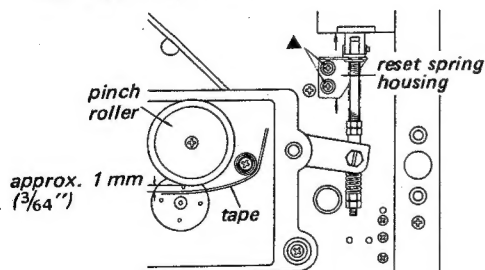

Fig. 3-1-2. Reset spring housing adjustment
See Fig. 3-1-2.
- (1) Remove the Reel Panel. See "Cabinet Removal" in page 6.
- (2) Thread a tape.
- (3) Check for approx. 1 mm ( $\frac{3}{64}$ " ) clearance between the tape and the Pinch Roller in the fast forward and the rewind mode. If necessary, loosen the two screws marked ▲ in Fig. 3-1-2, and adjust the position of the Reset Spring Housing by moving in the directions shown by the arrows.
- (4) After the adjustment, apply lock paint to the adjusting screws.